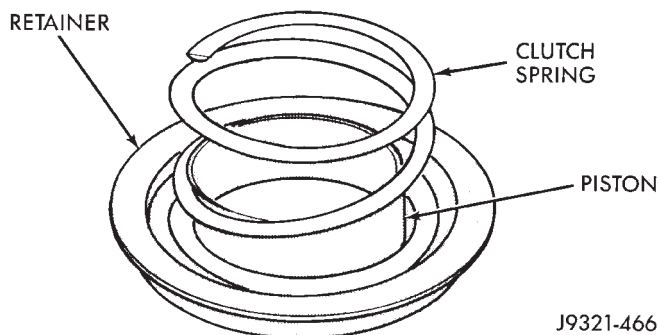

Fig. 211 Clutch Piston Spring Installation
(5) Position spring in clutch piston (Fig. 211).